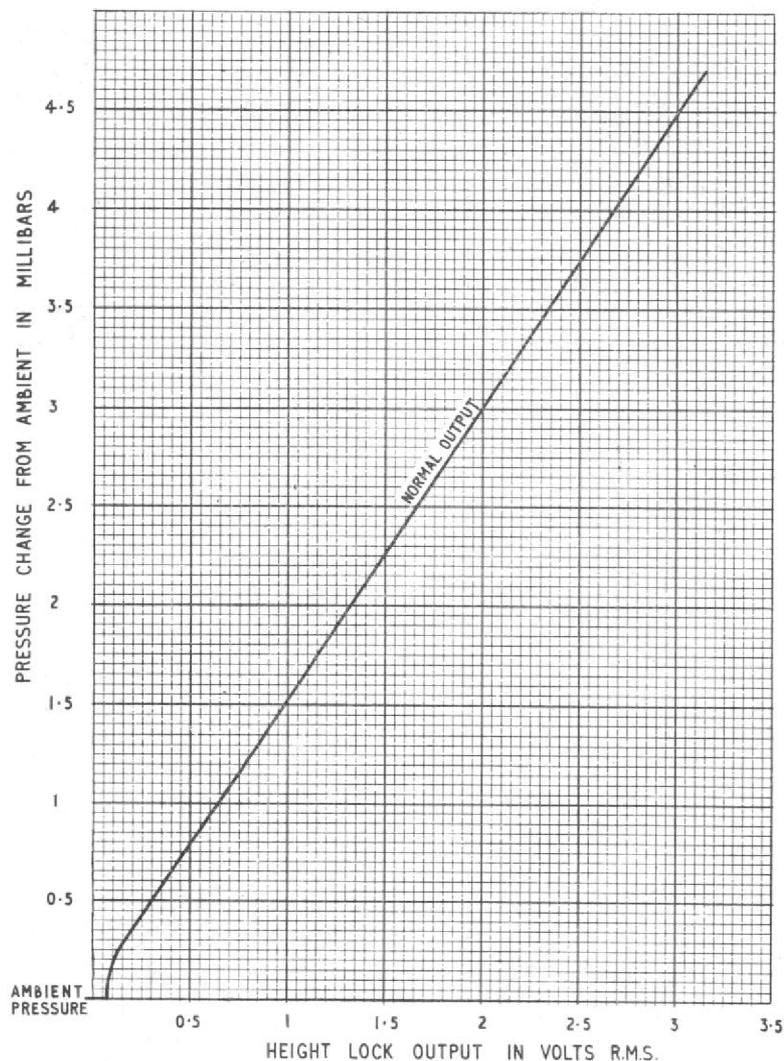

Fig. 4. Height lock transducer, Type A — output graph
(6) Allow 3 minutes for the transducer to warm up.
(7) Set S1 to the on position.
(8) The readings on the valve voltmeter and the mutimeter should be the same as those obtained in para. 13, sub-para. (5).
(9) Range the transducer in steps of 0.5mb over the range of ± 4.5 mb from the ambient pressure, by increasing or decreasing the barometer reading. Press the operating button and adjust the slyphon bellows until the barometer indicates that the new pressure is correctly set.
(10) Plot the readings obtained on the graph shown in fig. 4. The slope of the graph of the readings should be not less than that of the nominal readings and should be linear within 20%.
15. (1) Connect the test set terminals marked OSCILLOSCOPE to one beam of a twin beam oscilloscope.